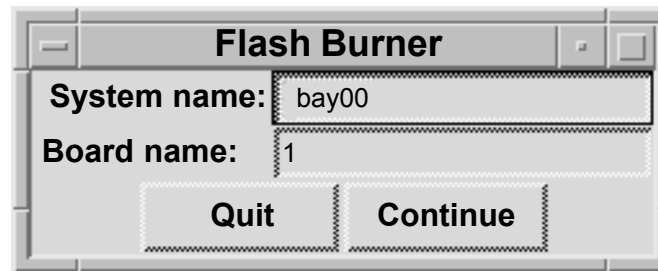

FIGURE 1 FLASH BURNER DIALOG BOX
19. At the Flash Burner dialog box (refer to Figure 1), enter the number of the board selected in the “Board name” category (1 for CP, 2 for GAM, 3 for DSP/AP, and 4 for BP) and click “Continue”.